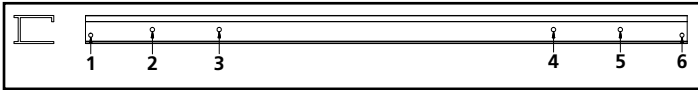

Figure 11. Mounting Pattern
2. Mark the center of holes 1, 3, 4 and 6 as shown in Figure 11, (holes 2 and 5 will not be used on the bottom rail), remove the rail.